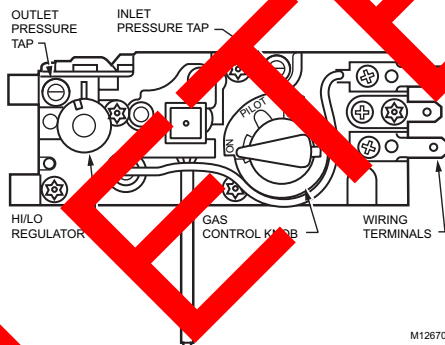

Fig. 4. Top view of gas valve with HI/LO regulator.
6. Connect pipe to valve inlet and outlet. Use wrench on the other side of the pipe outlet. Refer to Fig. 4 through 6.